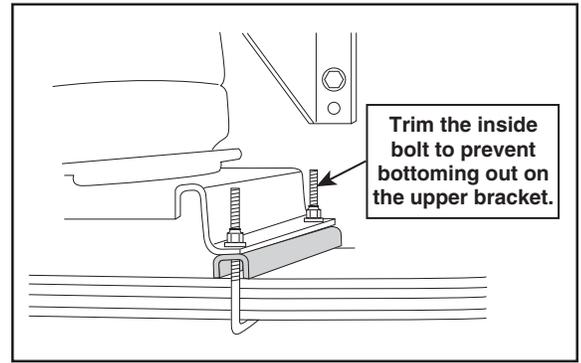

Figure 2
3. Trim the inside U-bolt if necessary to keep the bolt from hitting the upper bracket (Figure 2).